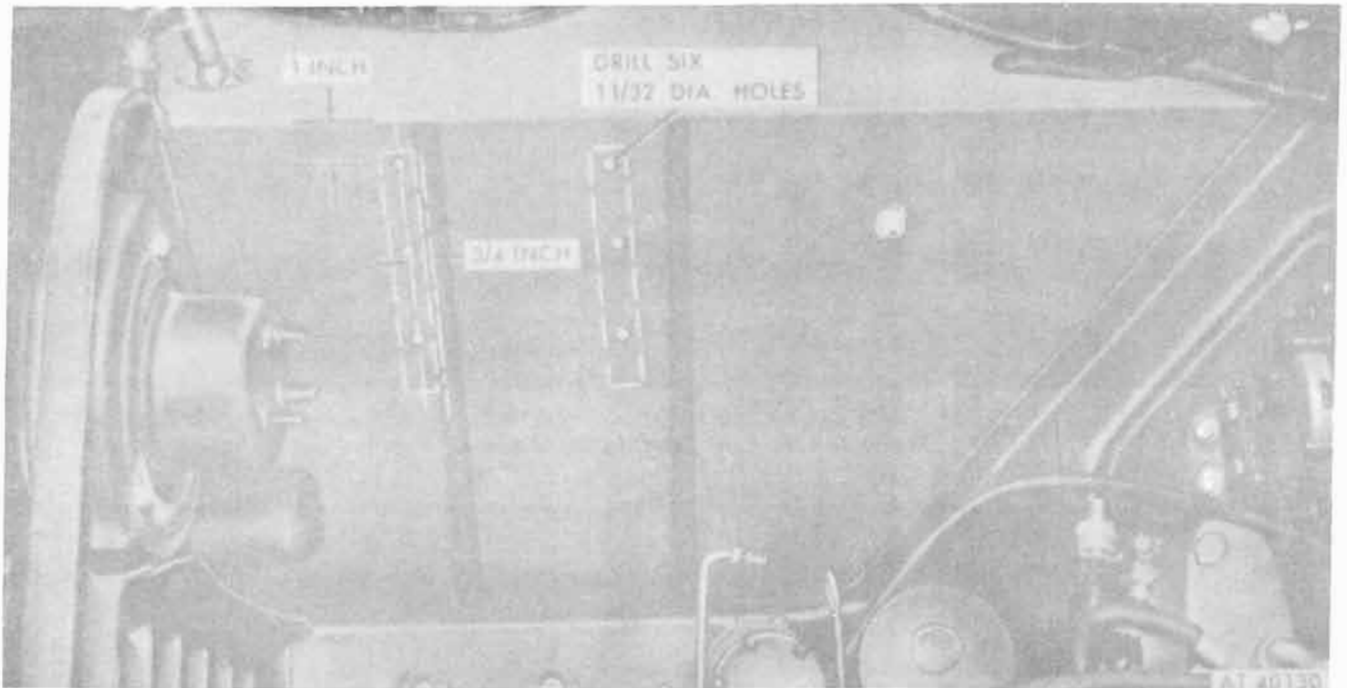

Figure 18-109. Right fender apron drilling diagram.
a. Assemble two brackets (1) to regulator assembly (2), using four screws (8) and four washers (9). Assemble two brackets (3) to regulator brackets using four screws (10) and four washers (4).
b. Using regulator and bracket assembly as a template, locate on right fender apron and scribe six hole locations (fig. 18-109). Drill six $11/32$ -inch holes.